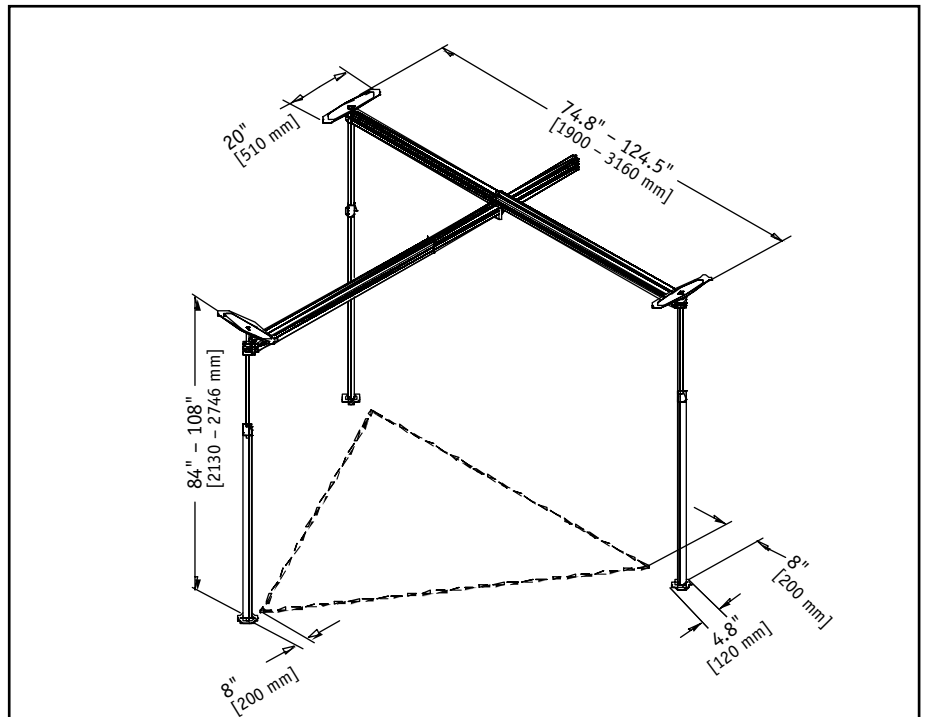

Figure 3
- d. Transfers should only take place between the Easytrack System posts (Figure 3).
1. Decide where you will place your pivot post and the other two standard posts. There must be a minimum of 75" (1.90 m) of space between each of the standard posts and a minimum of 21.3"-55.1" (540-1400mm) between the standard posts and the nearest wall (Figure 3).